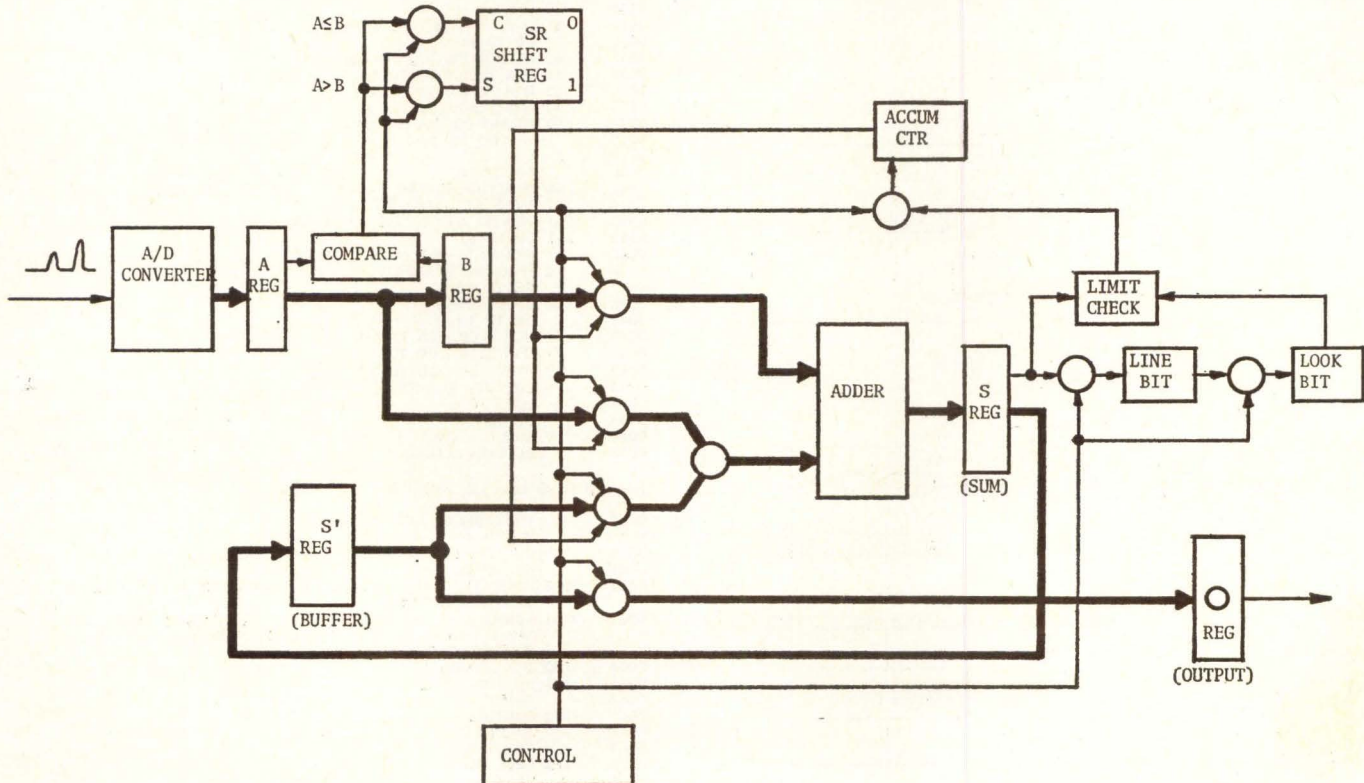

Fig. 1 — Block diagram of "peaks" circuitry.
A block diagram of the peaks logic circuitry is shown in Fig. 1. The logic beyond the A-to-D converter consists of registers (A, B, S, S', O), a 3 bit shift-register (SR), a 2 bit counter (Accum. Ctr.), an adder, control bits (Look and Line), compare circuit (A:B), limit check ($\leq \pm 3$), and control. The registers A, B, and O are 9 bits; registers S and S' are 11 bits. The control provides the timing or program sequence for the "peaks" circuitry operation.
(4) Output Mode. The mode descriptions given below refer to Figs. 1 and 2.